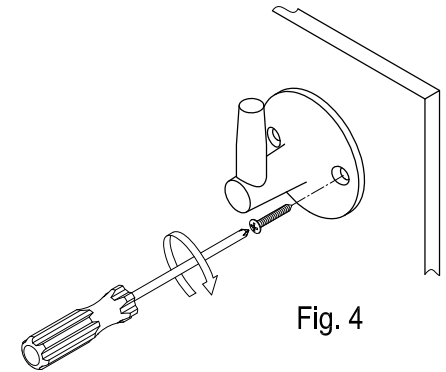

Fig. 4
Step 4. Screw the wall bracket to wall with mounting screw (fig 4).